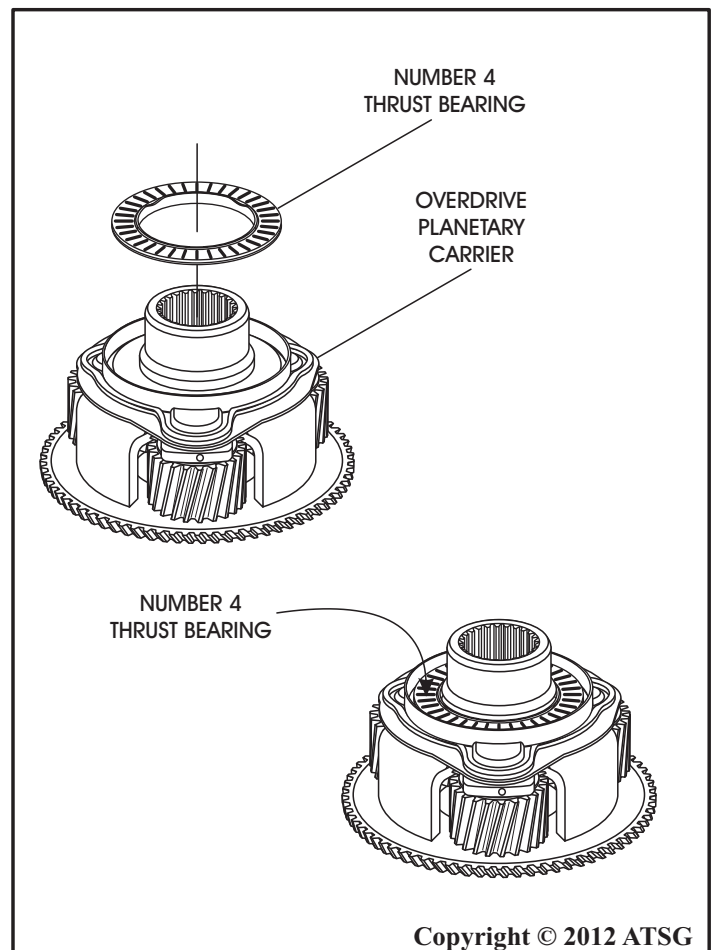

Figure 141
12. Install the number 4 thrust bearing onto the overdrive carrier, as shown in Figure 141, with needles facing up and retain with Trans-Jel®.